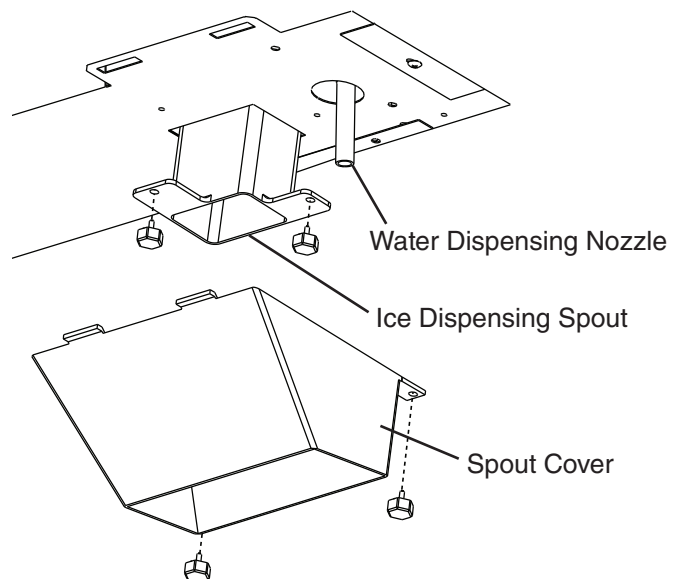

Fig. 11
- 8) Remove the spout cover, ice dispensing spout, and water dispensing nozzle. See Fig. 11.